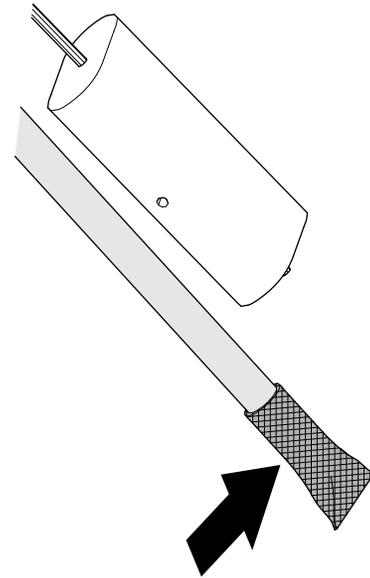

Figure 92
- 1. Clean the screen at the end of the fuel pick-up tube (Figure 92).